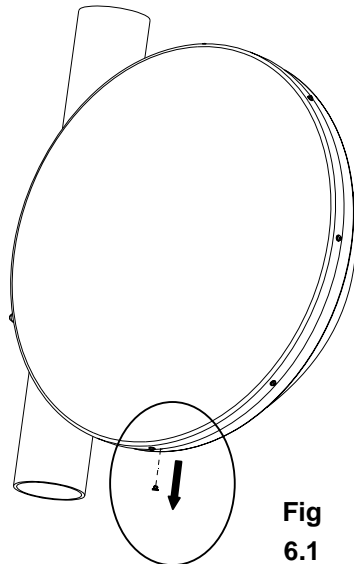

Fig 6.1
- 6.2 Keep the antenna bottom drain-hole open by removing the plug. The top drain-hole plug should stay sealed. (Fig.6.1 and Fig 6.1.1).